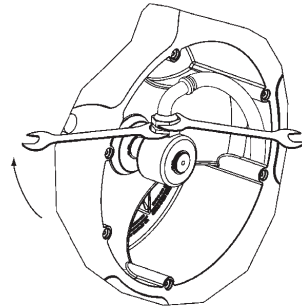

Fig.16
- Unscrew the nuts with two spanners (Fig. 16).
- Con dos llaves, afloje la manguera de la rótula (Fig. 16).